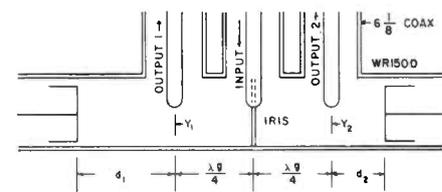

Fig. 16—Power-dividing circuit.
C. Power-Dividing Tee—The knowledge of the magnitude of the junction effect and the parameters required to cancel it (that is, x, d, and the size of the iris) permit the power-dividing circuit to be synthesized. See Fig. 16.
The construction in Fig. 10 may be used to find the Y_1 and Y_2 shown in Fig. 16 for any desired ratio of power in the output arms. The value of Y_1 or Y_2 is sufficient to determine d_1 or d_2 . For instance,